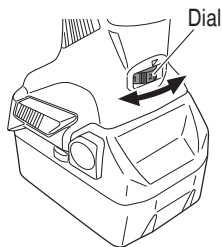

Fig. 9
7. Adjusting operating speed (Fig. 9)